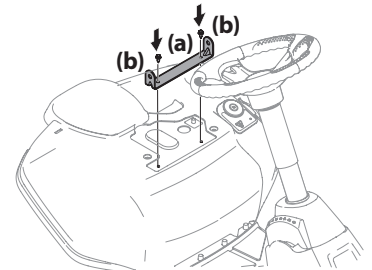

Figure 6
3. Align the seat bracket (a) in place over the holes from where the self-tapping bolts (b) were removed, as shown in Figure 6.
4. Using a 1/4" drive ratchet with a 3/8" socket, secure the seat bracket (a) with the self-tapping bolts (b) removed in Step 2. See Figure 6.